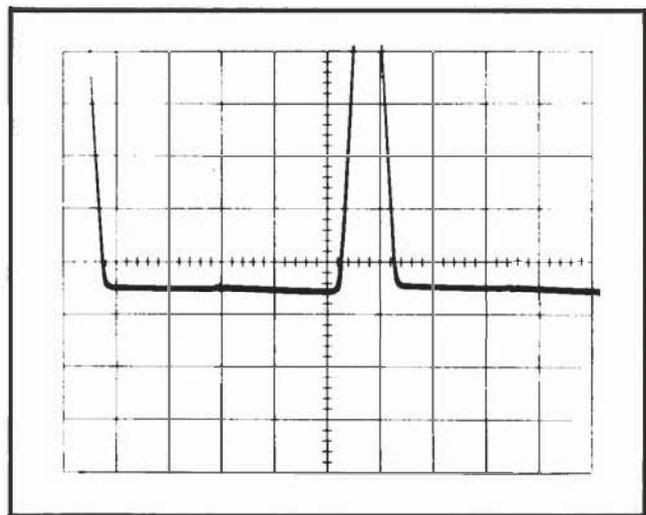

Fig. 3-5. Test oscilloscope waveforms when horizontal limit centering is properly adjusted.
- g. CHECK—The base line of both displayed waveforms should be at the same DC level within 0.2 division (see Fig. 3-5).